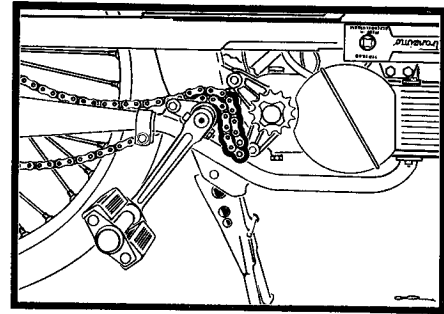

Fig. 7
- d) Disconnect the chain from the primary sprocket (see Fig. 7)